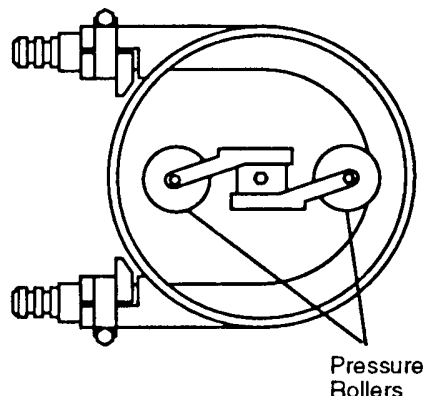

Fig. 1
2. For easier adjustment, check that the pressure rollers are in the position shown in Fig. 1 (one roller compressing the middle of the hose, and one roller free).
Note: Model ALP30 and ALP45 pumps use a different rotor assembly than the one shown in Fig. 1.